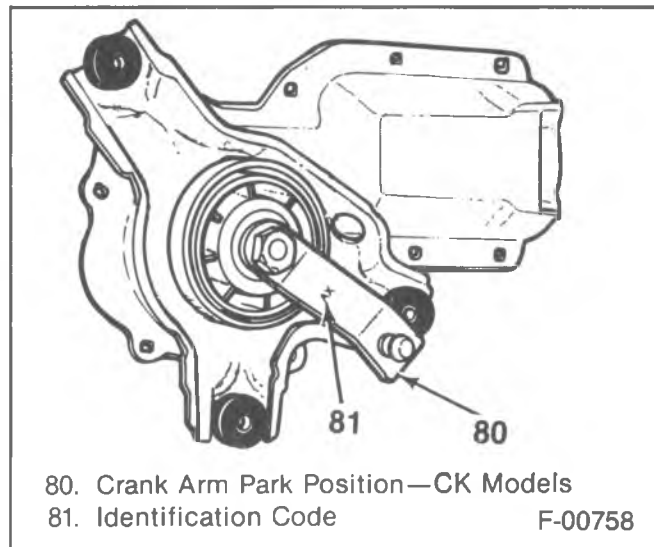

Figure 44—Crank Arm Position — RV Models
1. Spacer (73).
2. Shaftseal (72).
3. Crank arm (70).
- Install the crank arm according to figure 44 or 45, depending on the vehicle model.
4. Crank arm retaining nut (71).